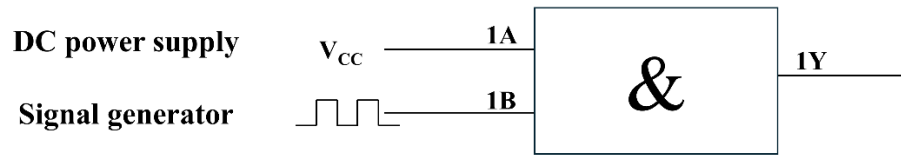

Figure 9. Circuit diagram.
(1) Wire the circuit based on the diagram in Figure 9. Do not forget the V_{CC} and ground pins on the chip.
- (1) Wire the circuit similarly to experiment on CMOS voltage levels (ref. Figure 9).
- (2) Connect the DC power supply, signal generator, and oscilloscope (CH1 for 1B and CH2 for 1Y) into the circuit. Set $V_{CC}=5.0V$ in the power supply. DO NOT output now.
- (3) Use the signal generator to output a 10Hz square wave with 5.0V for “1”, and 0V for “0”.
- (4) Output power supply and the signal generator. Observe input and output in the oscilloscope.
- (5) Gradually reduce the level of high voltage of the wave sequence of 1B at appropriate steps, and reach a point where the unstable reading occurs. Record the unstable wave image and the voltage at a high level.
- (6) Reset high voltage to 5.0V. Gradually increase the level of low voltage at appropriate steps, and reach another unstable reading. Record the unstable wave image and the voltage at a low level.